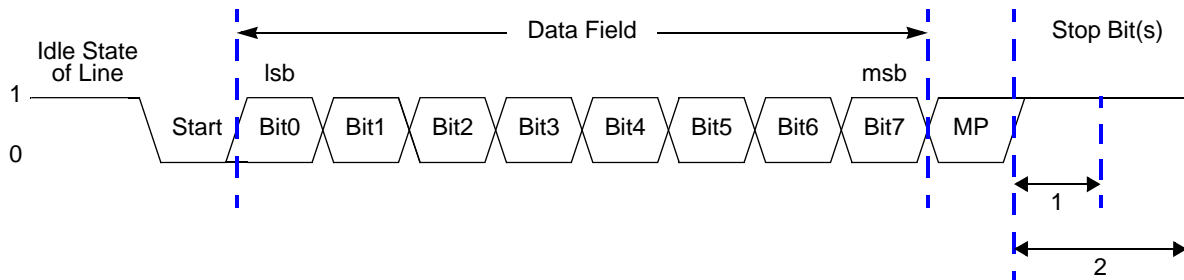

Figure 28. LIN-UART Asynchronous Multiprocessor Mode Data Format
The LIN-UART features a MULTIPROCESSOR (9-Bit) Mode which uses an extra (9th) bit for selective communication when a number of processors share a common UART bus. In Multiprocessor Mode (also referred to as 9-Bit Mode), the multiprocessor bit (MP) is transmitted immediately following the 8 bits of data and immediately preceding the Stop bit(s), as illustrated in Figure 28.